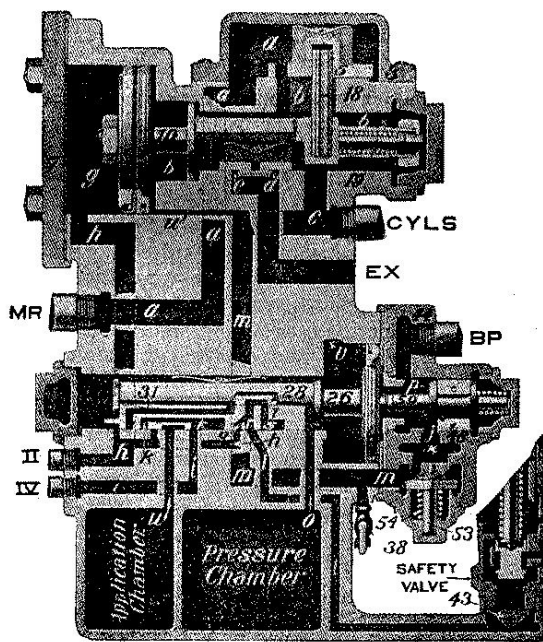

Fig. 11: Emergency Position of No. 6 Distributing Valve with Quick-Action Cap.
A. Any sudden reduction of brake pipe pressure is felt on the brake pipe side of the equalizing piston 26 and will cause it and the slide valve 31 to move to the extreme right, compressing the graduating spring 60. (See Fig. 11.) In this position pressure chamber air can flow to the application cylinder only as the application chamber is now cut off. This will cause a quick rise of pressure in the application cylinder, forcing the application piston and its valves to full application position, admitting main reservoir air to the brake cylinders and applying the brake. In emergency position of the automatic brake valve there is a small port in the rotary valve, called the blow-down timing port, through which main reservoir air is free to flow to the application cylinder "g" through the application cylinder pipe "II", causing a rise of pressure equal to the adjustment of the safety valve.